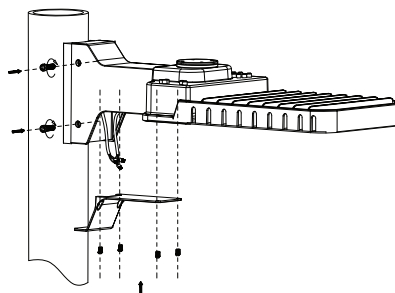

FIG. 12
3. Tighten the four M8*20 bolts on the fixed arm and secure it to the adapter. Connect the power leads properly (see Wiring Diagrams below), make wiring connections inside the fixed arm, and secure the bottom cover with screws (see **FIG. 12**). The wiring connections can also be made inside the pole.